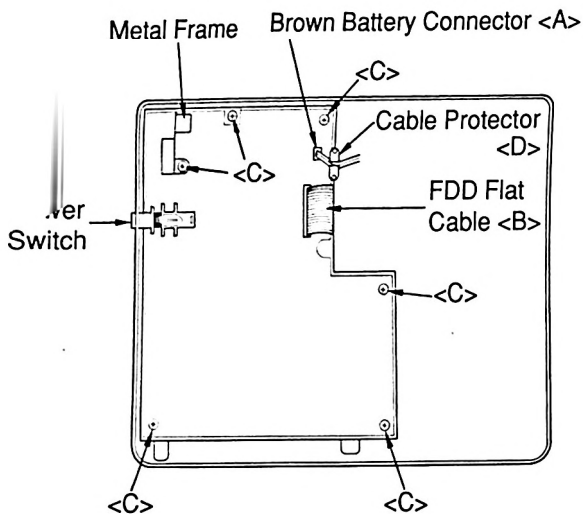
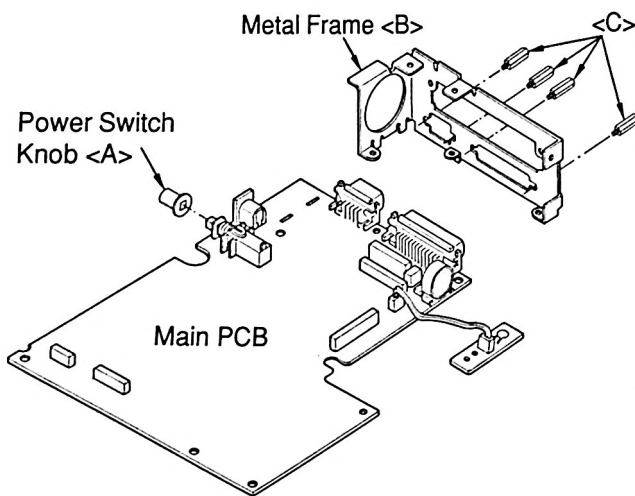

Figure 14
Figure 15
(3) Detach the brown battery connector <A> as shown in Figure 14.
(4) Detach the FDD flat cable by gently pulling it up as shown in Figure 14.
(5) Remove six screws <C> (3Ø×8) fixing the main PCB as shown in Figure 14.
(6) Remove the cable protector <D> from the bottom shield plate and take out the brown battery connector from the cable protector as shown in Figure 14.
(7) Gently push the power switch inward as shown in Figure 14.
(8) Lift up the main PCB from the right end by holding the metal frame fixing serial & parallel connectors.
(9) Detach the power switch knob <A> and remove the metal frame from the main PCB by loosening 4 screws <C> as shown in Figure 15.